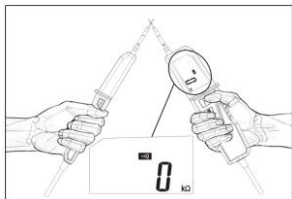
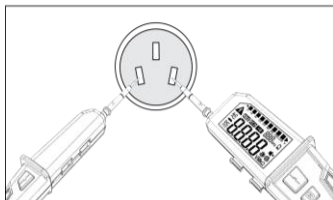

Fig.3
Fig.4
2. Before the test, you can manually check the tester's quality, as shown in Figure 3: Touch the metal nib of the tester L1 and L2 together, and the on-off resistance will be displayed at this time. The resistance value range should be $< 5k\Omega$; select a known voltage object, and then connect the two probes to it, such as a 220V socket, to ensure the accuracy of the tester (see Figure 4). This